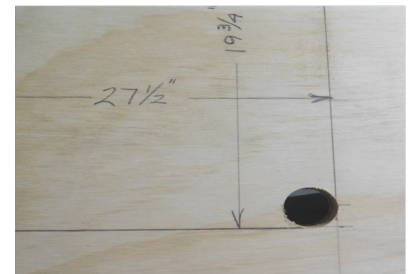

Figure 1
1. Create a template out of plywood with a rectangular hole measuring 27 1/2" x 19 3/4". The corners can be cut out with a 1" hole saw as shown in *Figure 1*. Smooth the edges so that a nice line can be drawn around the template. Check the fit of the template on the hatch.